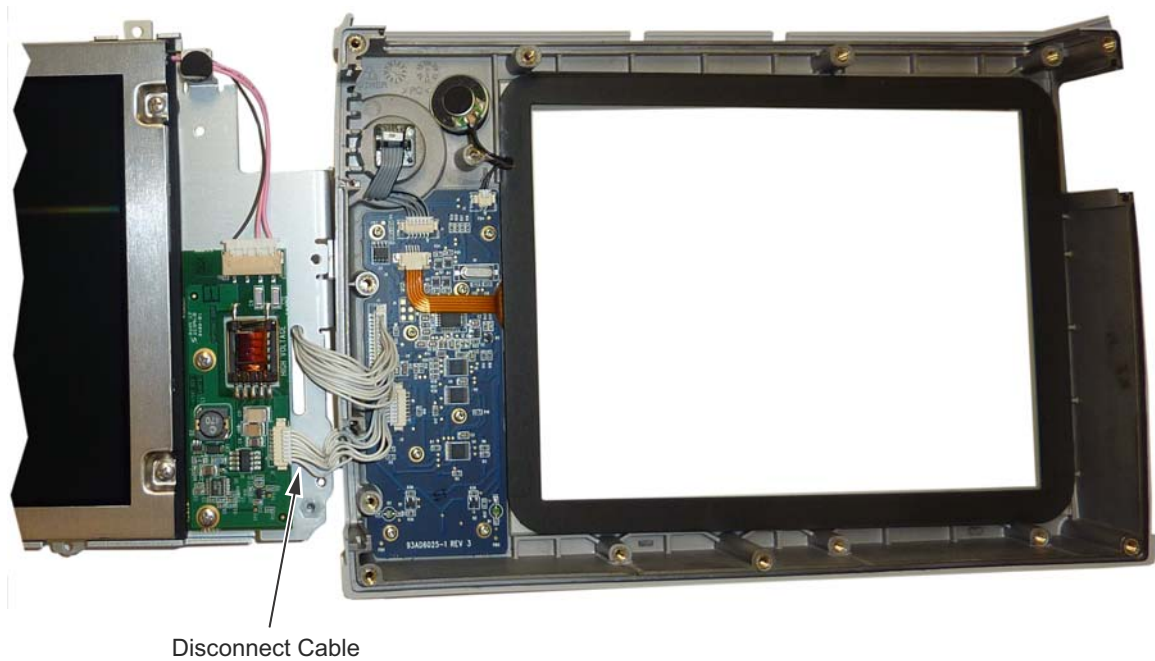

Figure 7-11. Replacing the LCD Assembly
- Turn the LCD assembly over and disconnect the front half of the case from the LCD Assembly (Figure 7-11).